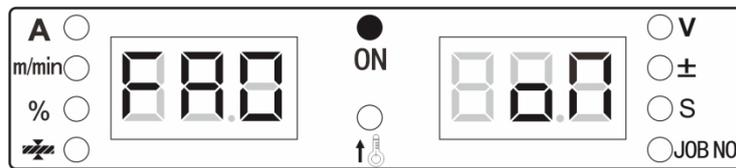

Fig. 4-1 FA0 display interface
1. Enter the internal menu and find **FA0** by turning the knob. The digital meter display is as displayed in Fig. 4-1.